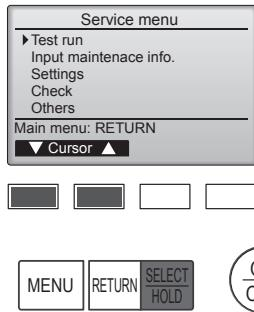

Fig. 7-3
③ Select “Test run” with the [F1] or [F2] button, and press the [SELECT/HOLD] button. (Fig. 7-3)